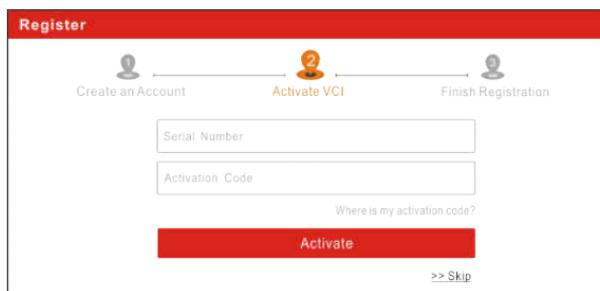

Fig. 4-4
b) Activate VCI Connector: In Fig. 4-4, input the Serial Number and Activation Code, which can be found in the password envelope.